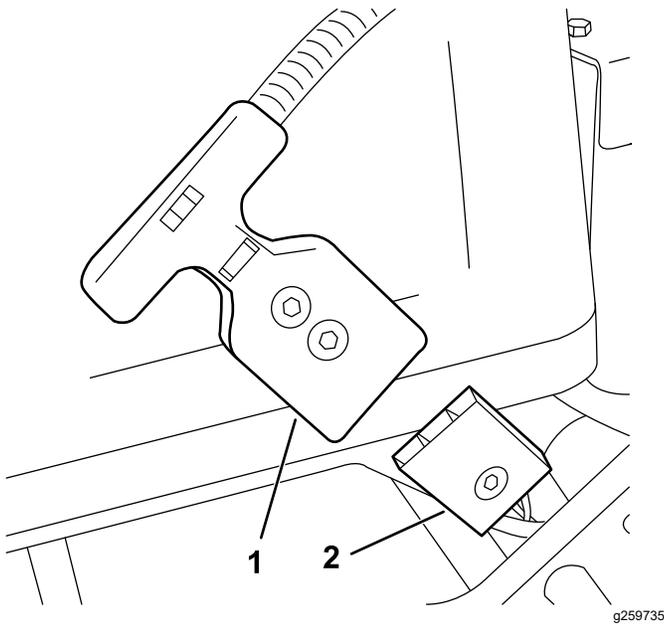

Figure 33
4. Disconnect the T-handle connector from the main wire harness to the main power supply connector on the battery base (Figure 33).
4. Connect the T-handle to the battery pack connector (Figure 33)